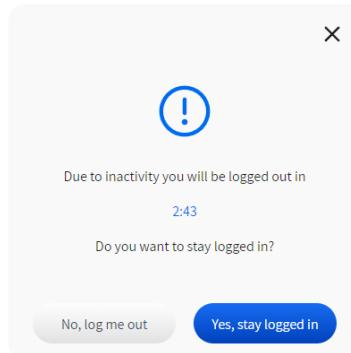

Fig. 9.3
**Automatic Log Out:** After eight minutes of inactivity, a dialog box will appear with a three-minute countdown timer (Fig. 9.3). This dialog box prompts the user to select the option **Yes, stay logged in** or **No, log me out**. If neither option is selected, this timer continues to count down to zero, after which the system automatically logs the current user out.